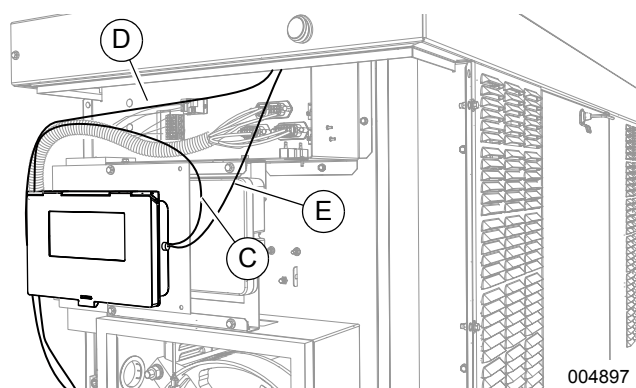
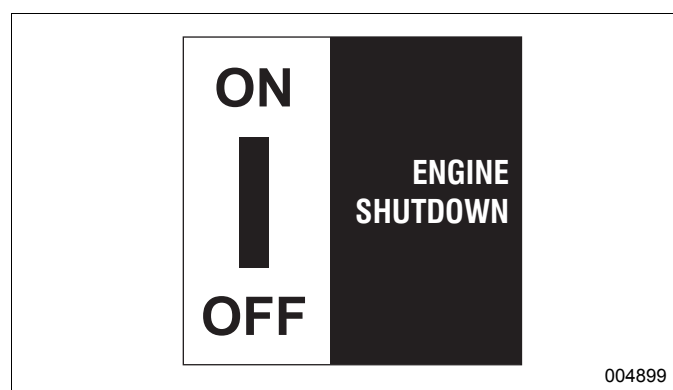

Figure 9 - Wire Routing
Figure 11 - Engine Shutdown Decal
7. See **Figure 9**. Route loose end of 36 in. (91 cm) wire (C) along existing harness to left side of control panel.
9. Crimp an insulated barrel splice crimp connector (G—supplied) to stripped end of 42 in. (106.7 cm) wire (D). Crimp open end of barrel splice connector to second stripped black wire.
10. See **Figure 9**. Route loose end of 42 in. (106.7 cm) wire (D) up along existing harness to location of second rocker switch.
11. Guide 42 in. (106.7 cm) wire (D) and 24 in. (61 cm) wire (E) over the top of connection box divider panel. Tuck wires between panel flange and roof panel insulation.
14. See **Figure 11**. Apply supplied engine shutdown decals above and next to rocker switches.